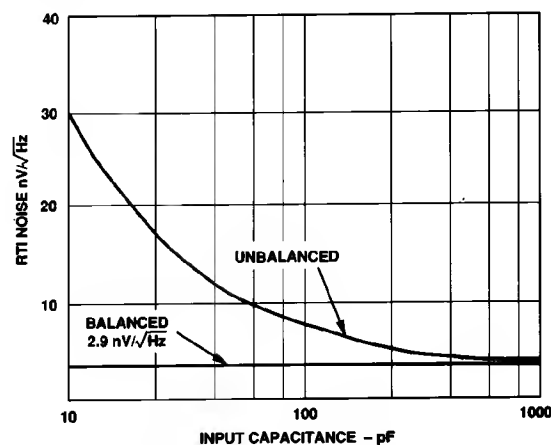

Figure 38. RTI Voltage Noise vs. Input Capacitance
As mentioned previously, it is good practice to balance the source impedances (both resistive and reactive) as seen by the inputs of the AD743. Balancing the resistive components will optimize dc performance over temperature because balancing will mitigate the effects of any bias current errors. Balancing input capacitance will minimize ac response errors due to the amplifier's input capacitance and, as shown in Figure 38, noise performance will be optimized. Figure 39 shows the required external components for noninverting (A) and inverting (B) configurations.